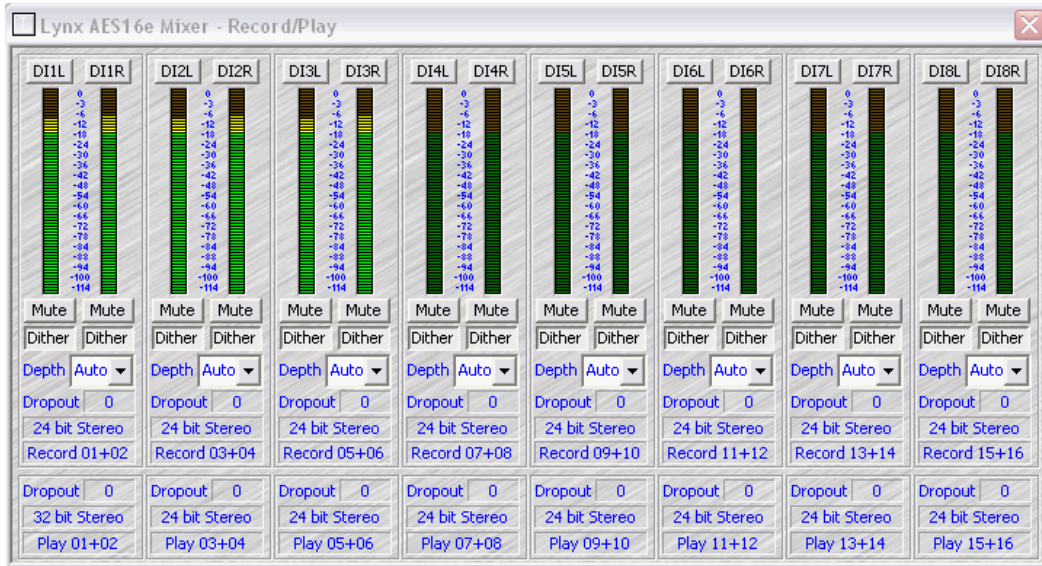

Figure 4-1 Record/Play Mixer Screenshot
3. Verify meter movement on desired channel (see Figure 4-1 on page 4-2)